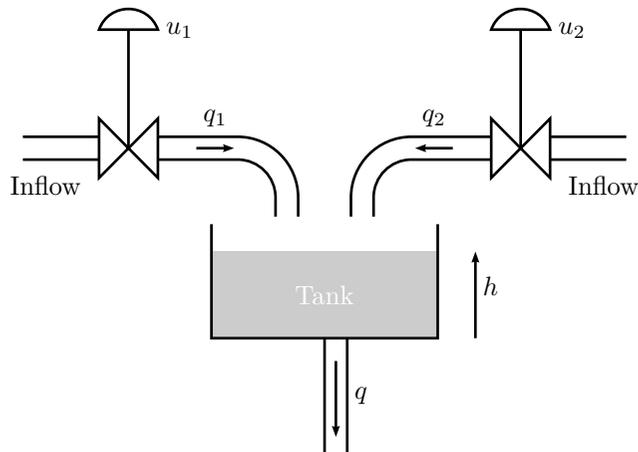

Figure 8.8a
8.8 Consider the tank in Figure 8.8a. The tank can be filled from two different pipes, where the flows q_1 and q_2 are determined by the valve settings u_1 and u_2 . If q_1 , q_2 , u_1 , u_2 , and h denote the deviation from a nominal value, we get the linearized equation